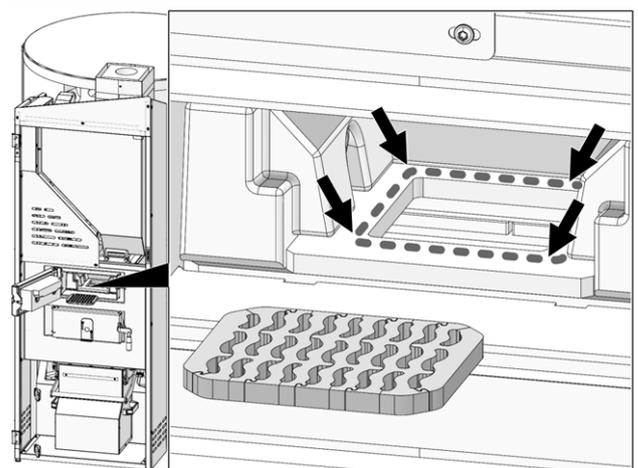

Fig. 2-54: Clean stainless steel combustion grate support surface
- ▶ Remove **3** stainless steel combustion grate and insert a new stainless steel combustion grate (Note: Before inserting the new stainless steel combustion grate, clean the support surface > Fig. 2-54)